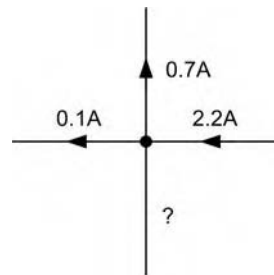

Figure 5.40
2. Determine the unknown current in Figure 5.40.